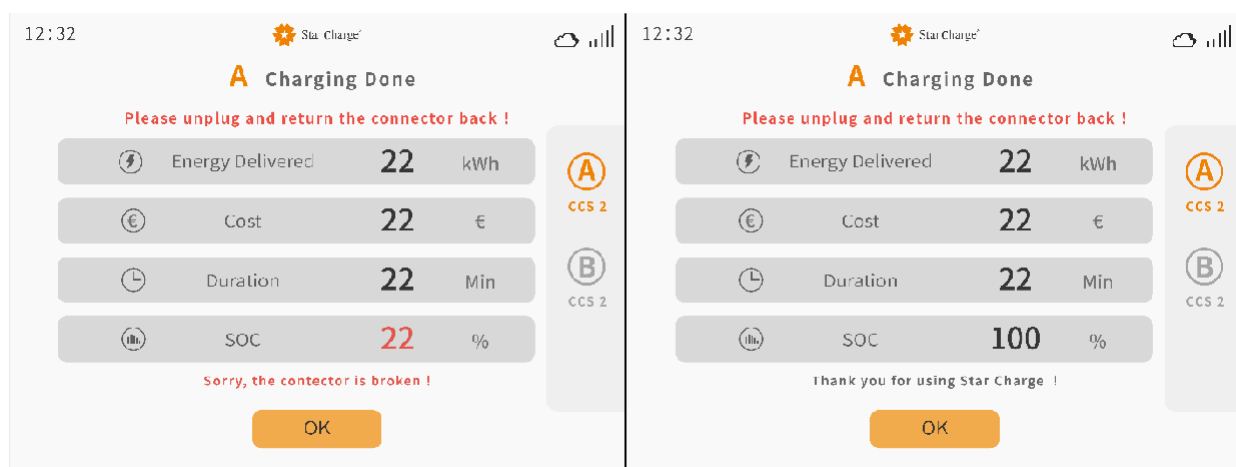

Figure 3-6 Interface at the end of charging
Step 5: Charging results are displayed on the EVSE screen after charging is fully charged or stopped, as shown in Figure 3-6. Click A and B buttons on the far right of the screen to switch to the interface of other charging connectors. The left picture is the interface of abnormal or manual stop details, and the right picture is the interface of successful full details. Click "OK". If the Charging connectors is still plugged in, repeat the charging steps to recharge it.